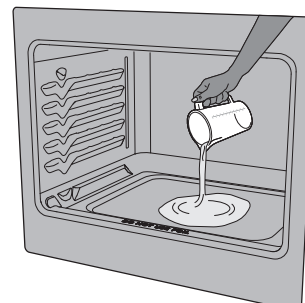

Figure 14: Add 1 cup of tap water
5. Pour 1 cup of tap water onto the oven bottom (Figure 14). Close oven door.